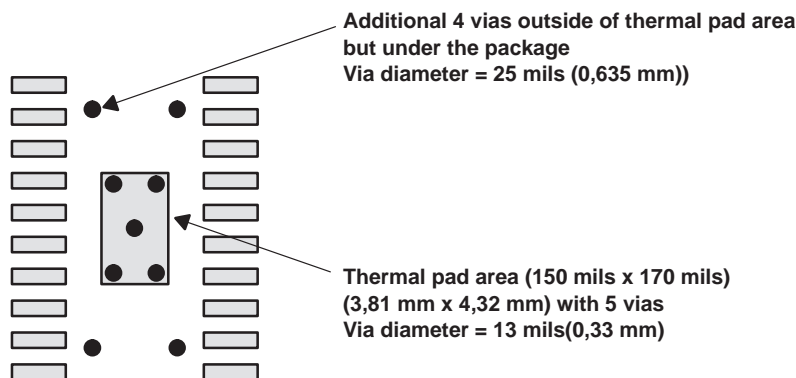

Figure 57. PowerPad PCB Etch and Via Pattern
1. Prepare the PCB with a top side etch pattern as shown in Figure 57. There should be etch for the leads as well as etch for the thermal pad.